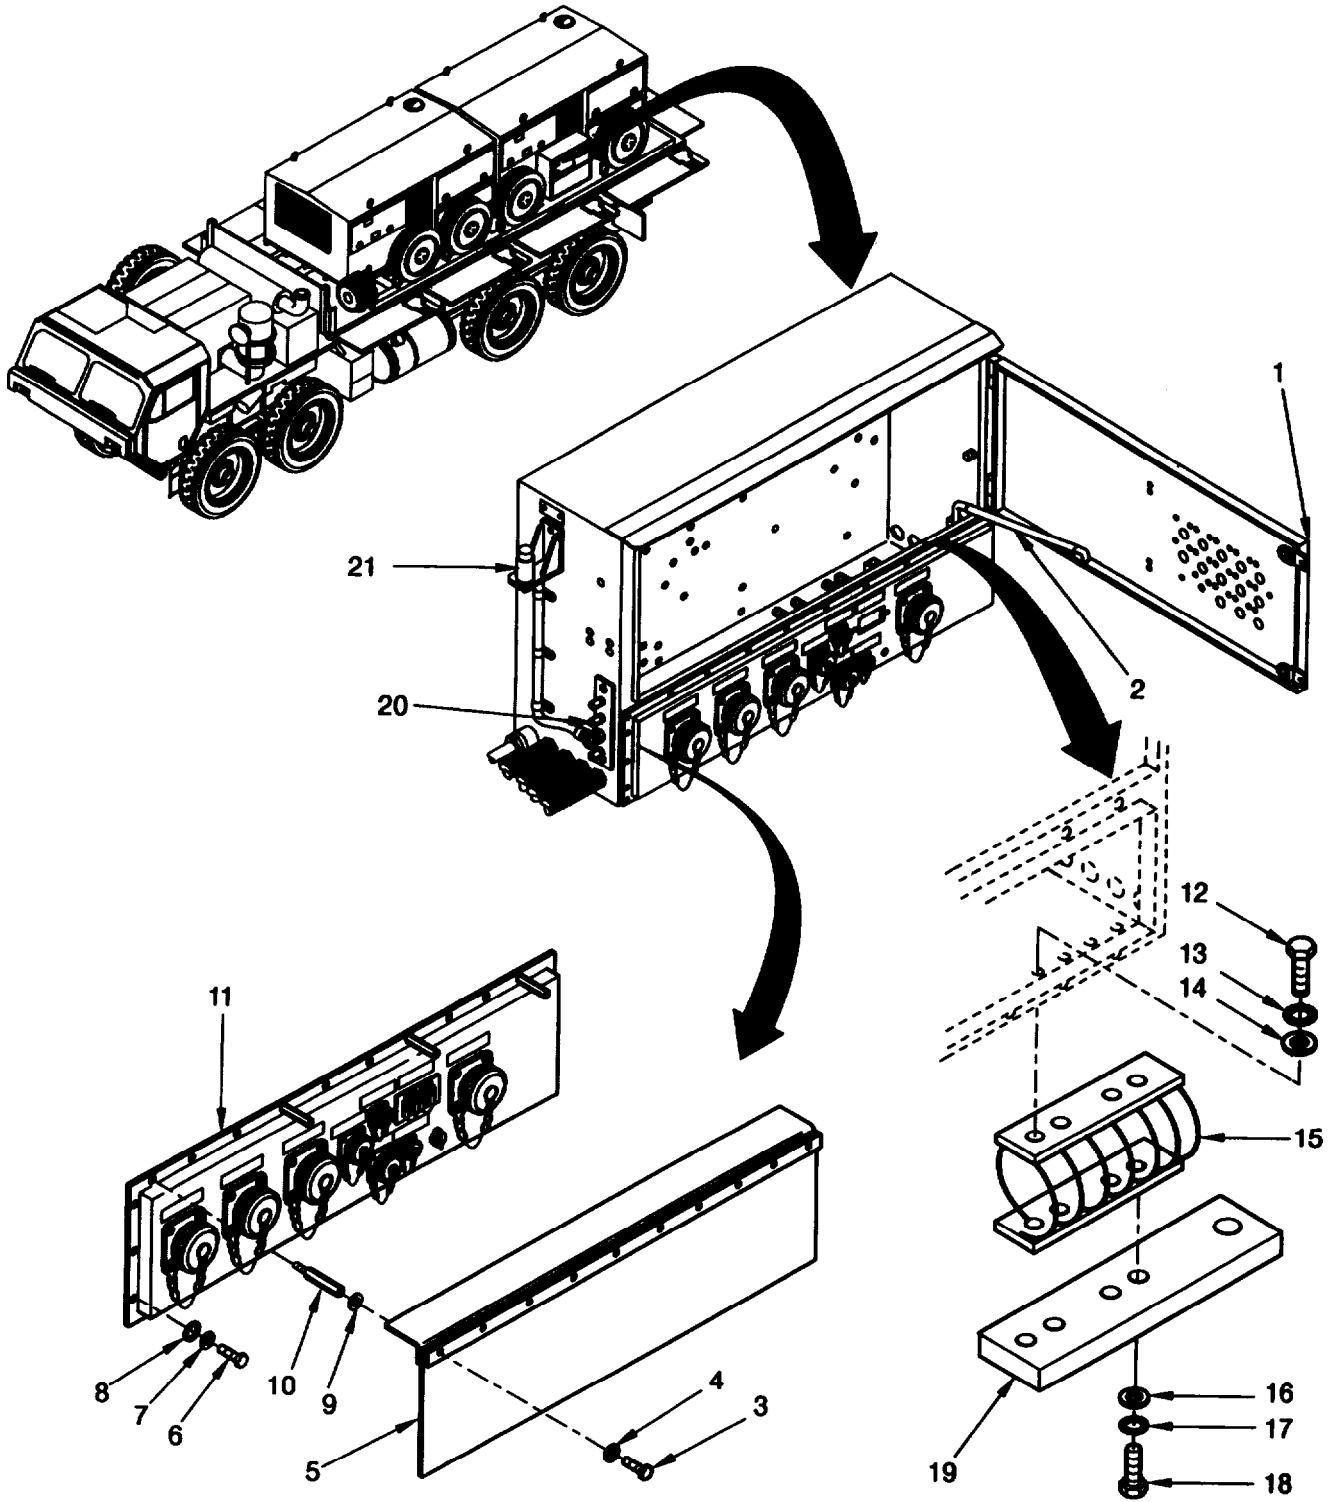

Figure 4-31 Power Distribution Unit.
- l. Detach the sling from the crane and power distribution unit (1).
- m. Open the access door (1, figure 4-31) and secure with prop (2).
- c. Inspect that connection panel (11, figure 4-31) is in good condition. Plug contacts must be secure and must not be charred. The cover caps must be easy to thread onto the plugs. The hinged socket covers must close properly.
- d. Check shock absorber (15) for external damage or cracking.
- e. Check that U.S. Standard Grounding Assembly (21) is securely attached.
- f. Check that attaching parts on grounding bar (20) are all present and undamaged.
- g. Check rubber flap (5) for external damage.